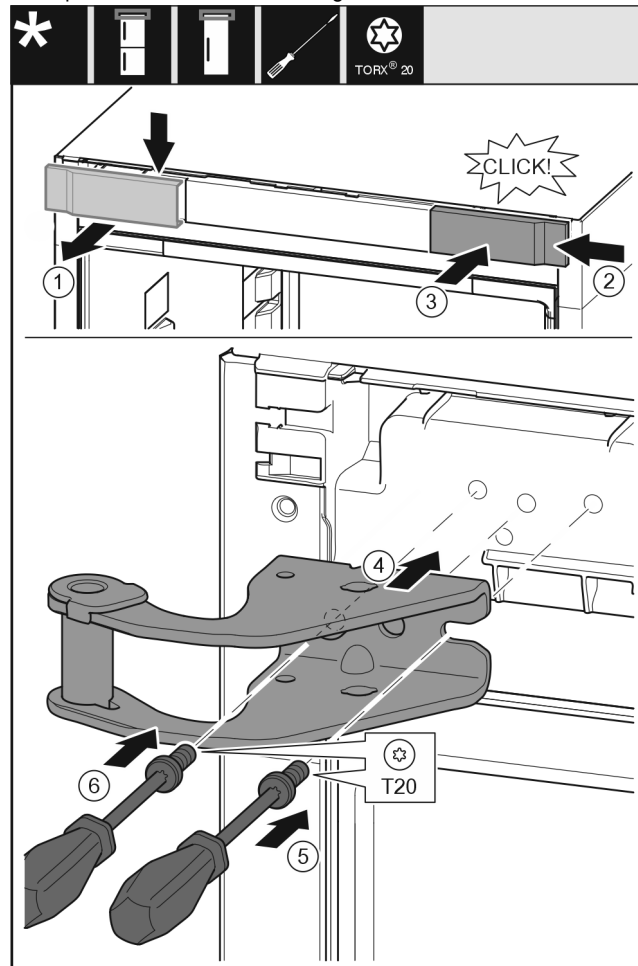

Fig. 14
- Remove the cover Fig. 14 (1) from above towards the front.
- Turn the cover Fig. 14 (2) by 180° and attach to the other side from the right.
- Engage the cover Fig. 14 (3).
- Place the top swap bearing block Fig. 14 (4).
- Use screwdriver Fig. 14 (5) to place the screw and tighten it.
- Use screwdriver Fig. 14 (6) to place the screw and tighten it.